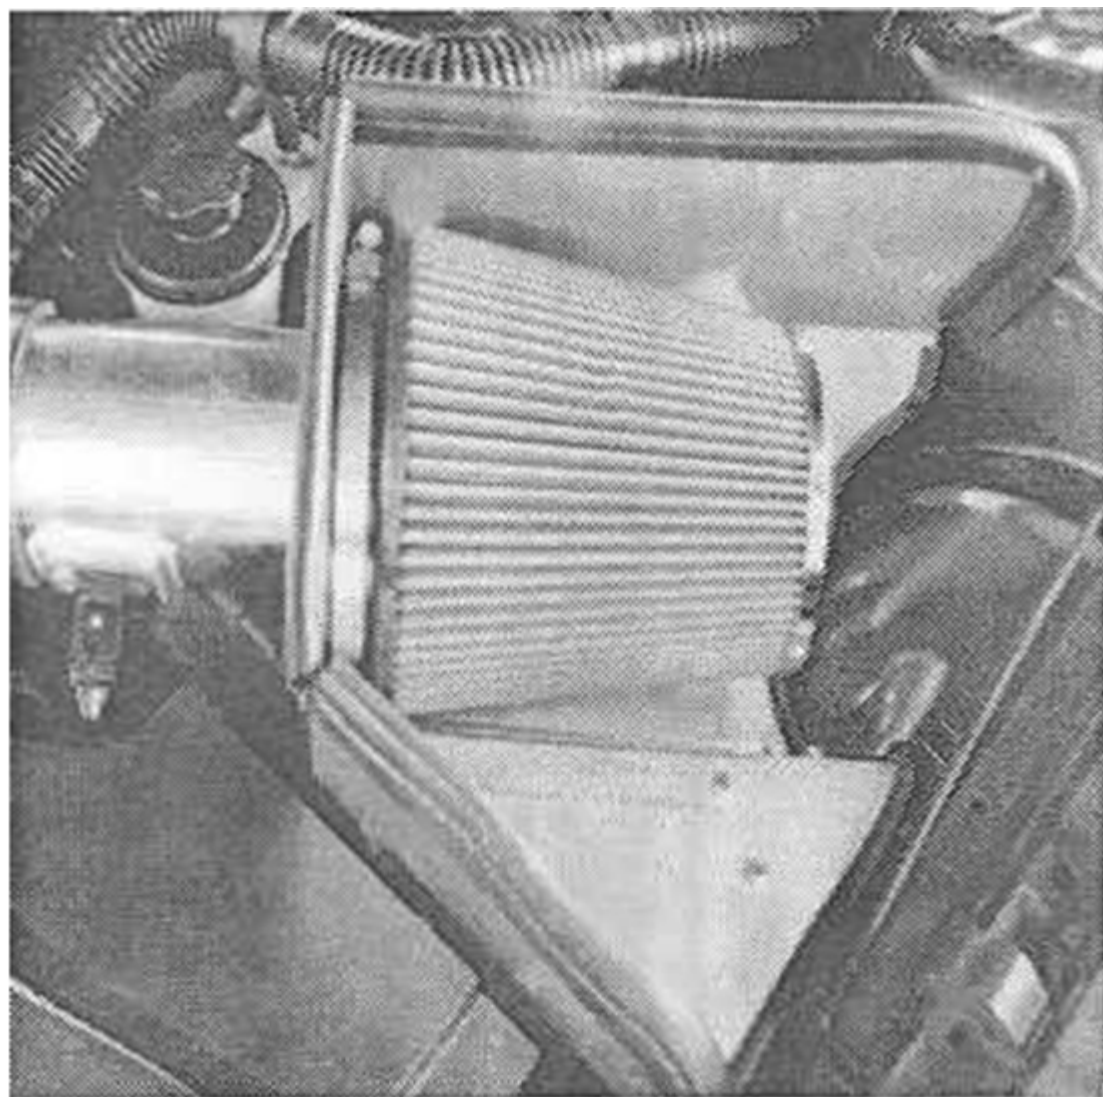
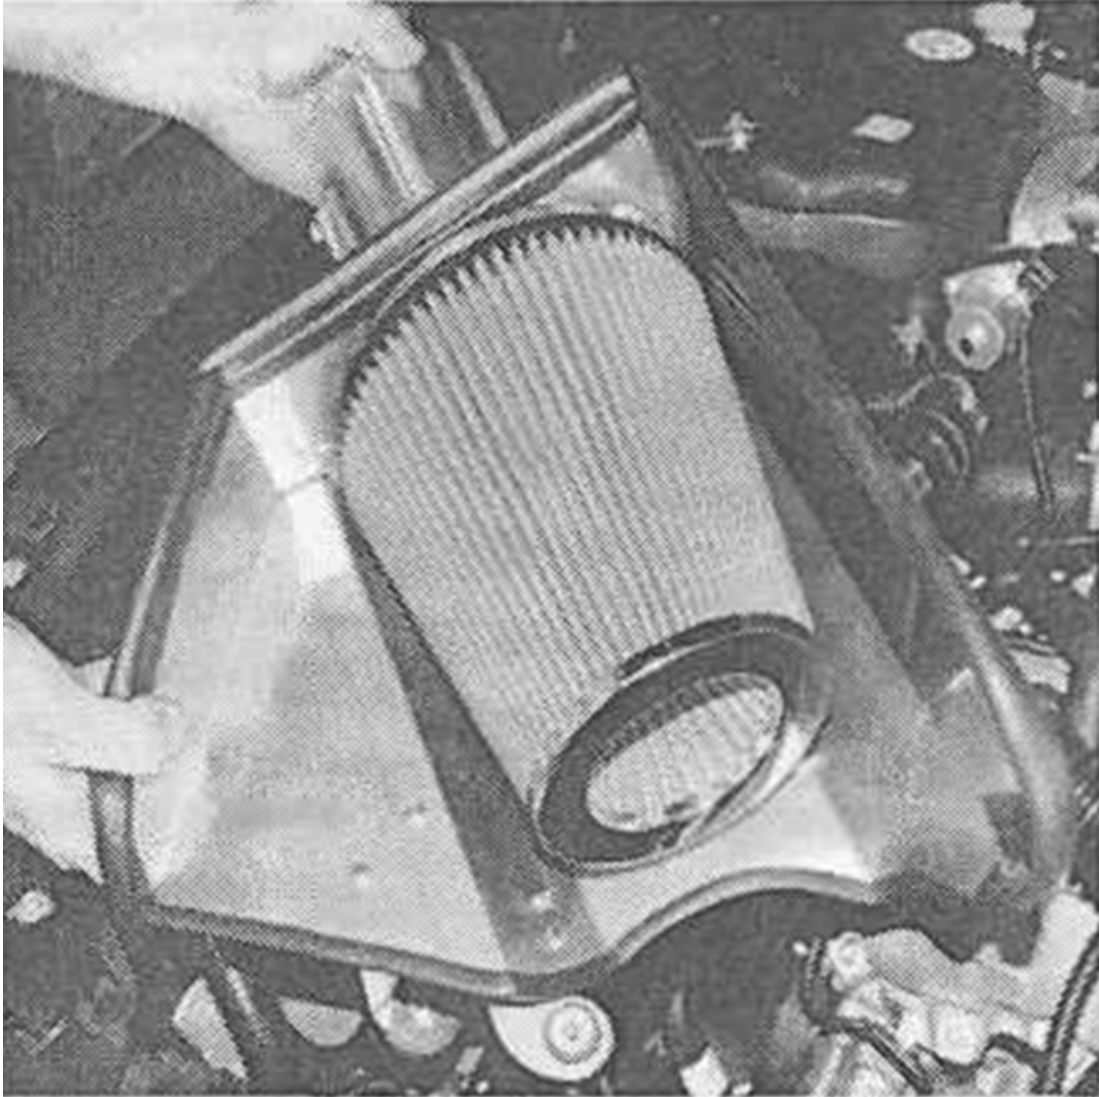

Figure 8
Figure 7
3. Install the rubber trim around the edges of the shield as shown in Figure 8. The larger trim with the bulb should go around the top of the shield to seal against the hood liner and the smaller trim should go around the lower part of the shield. The completed assembly should look similar to Figure 7.
4. Then attach the supplied cone air filter to the velocity stack by sliding it over the outer flange and securing it with the attached hose clamp as also seen in Figure 7.
1. Fit the shield assembly into the car in the same location and orientation as the factory airbox as seen in Figure 8. Be sure to locate the dowel pins in the brackets of the shield into the rubber grommets you placed in the holes of the fender earlier. Also make sure to bolt down the bracket with the bushing you installed in it to the same hole used to secure the factory airbox. Additionally, make sure that the cold air scoop fits in the same location as the factory piece.